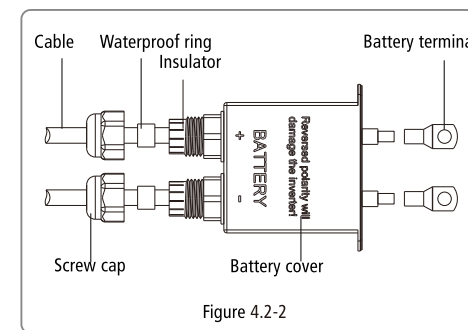

Figure 4.2-2
- (1) Check the nominal voltage of batteries. The nominal output voltage should meet GoodWe product Spec.
- (2) Disconnect DC breaker between inverter and battery.
- (3) Disconnect screw cap from insulator.
- (4) Disconnect waterproof ring from insulator.
- (5) Put the cable through the components in this order: screw cap, waterproof ring, insulator, battery cover and battery terminal. Refer to Figure 4.2-2.